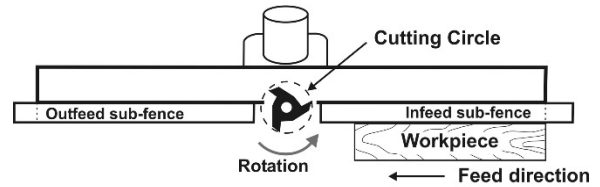

Figure 8-3
7. Do not perform “climb cuts” (feeding the work with the bit rotation). Always feed work *against* the bit rotation. See Figure 8-3.
by the cutter, both sub-fences are set in a straight line as shown in Figure 8-3.